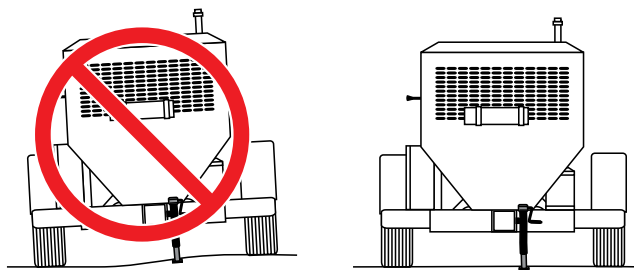

Figure 18. Rear Stabilizer Stand Deployment
3. Position both rear stabilizer jacks on firm (not loose) level ground (Figure 18).